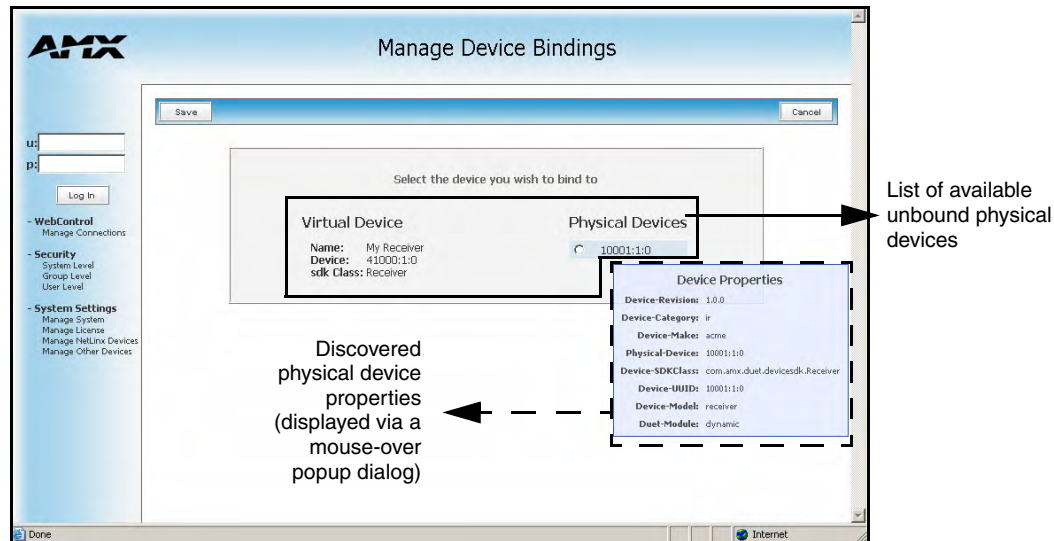

FIG. 74 Manage Device Bindings - showing a listing of all unbound devices
- Dynamic application devices that have not been bound to a physical device display a **Bind** button. When this button is selected, a secondary display appears with a listing of all available unbound physical devices that match the application device's Device SDK class type (FIG. 74).
- A mouse-over popup dialog is provided to display the properties associated with each discovered physical device that is listed (FIG. 74).